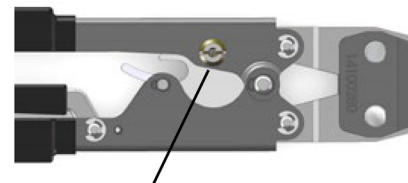

Fig. 11: Adjustment nut
4. Using a straight blade screwdriver, tighten the adjustment nut (Fig. 11).